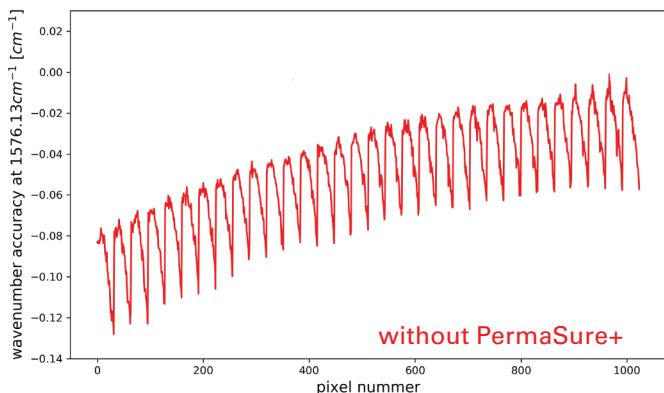

Figure 1: Variance of the position of the water-vapor band at 1576.13 cm^{-1} when measured without PermaSure+ calibration.
- This may sound trivial but is quite hard to do. In an FT-IR microscope the IR rays that reach different pixels on the array detector take slightly different ways within the interferometer. This must be considered when calculating the scale of the wavenumber axis. As a result, every pixel of the chemical image needs to have an individual calibration of the wavenumber axis. Figure 1 shows the wavenumber accuracy for an FT-IR microscope without Bruker's PermaSure+ calibration. The wavenumber accuracy strongly differs from pixel to pixel.